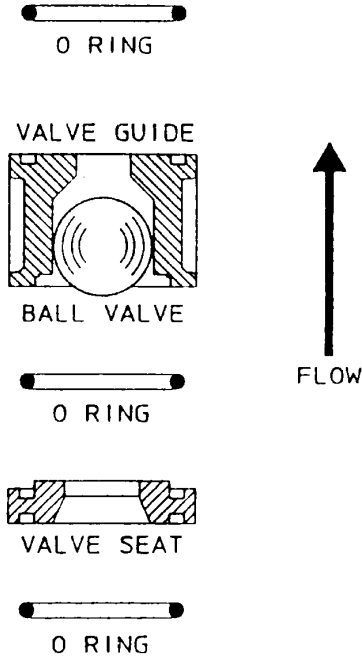

FIGURE 1
11. Reinstall both valve assemblies, taking care to ensure that they are correctly oriented with balls above seats. Refer to Fig. 1.